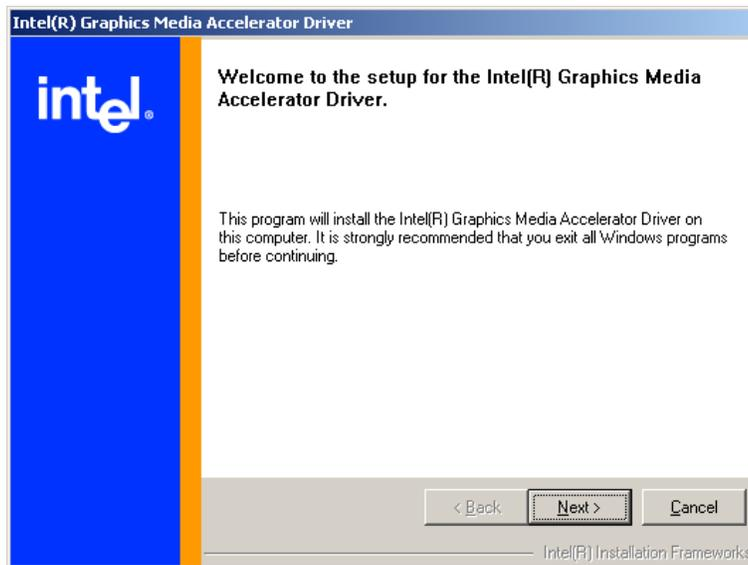

Figure 6-15: Intel® Graphics Media Accelerator Driver Welcome Screen
Step 5: The Graphics Media Accelerator Driver Welcome screen appears (Figure 6-15).